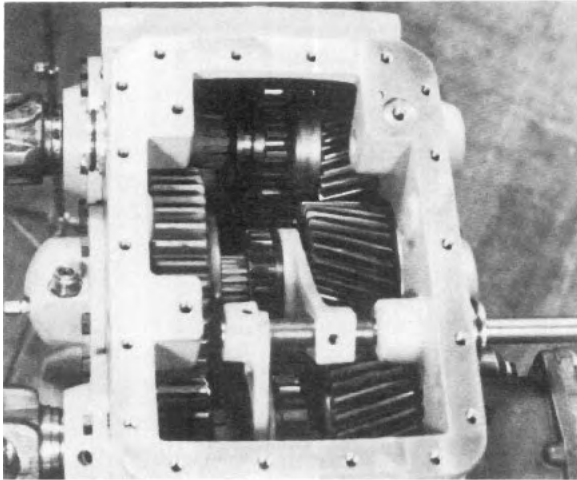

Fig. 35
5. Install the $7\frac{5}{8}$ " overall length underdrive shift fork (Item 35); it should fit into the groove of the underdrive shift clutch (on the intermediate shaft) the long hub section should be facing the rear of the case. Insert the two-groove shift shaft (Item 36) into the adaptor tube (Item 15) at the rear of the case housing (see 1 of this section). Slide end of shift shaft into underdrive shift fork (Item 35). Put $5\frac{7}{8}$ " overall length shift fork (direct drive shift fork— Item 34) long hub toward front of the case, into the case with the forks in the groove in the direct drive clutch on the input shaft. Push shift shaft through this fork (See Fig. 35) and into the hole in the front wall of the case housing. Push on the end of the piston and compress the spring until the piston butts against the nylon stop ring and the adaptor. This will allow the set screw in the underdrive shift fork (Item 35) to be tightened into the proper groove on the shift shaft. Rotate both shift forks in either direction but *in the same* direction and, with the second fork in the proper place longitudinally, tighten set screws to specified torque and install the lockwire.